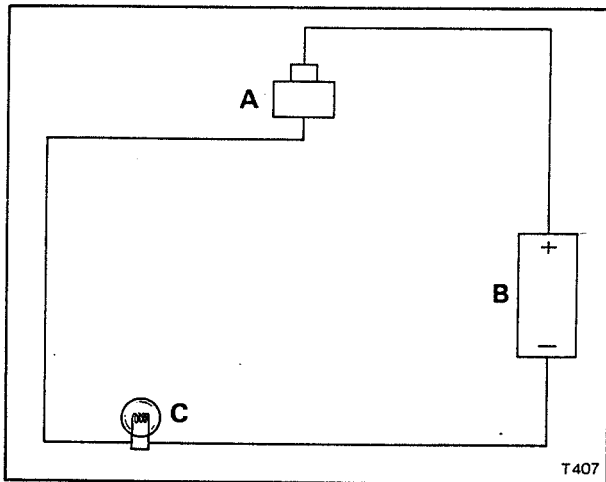

Fig. G32m Pressure switch test circuit
6. Connect a battery and test lamp in series to the pressure switch as shown in Figure G32m. The test lamp should illuminate, confirming that the switch contacts are made, denoting no brake fluid pressure.